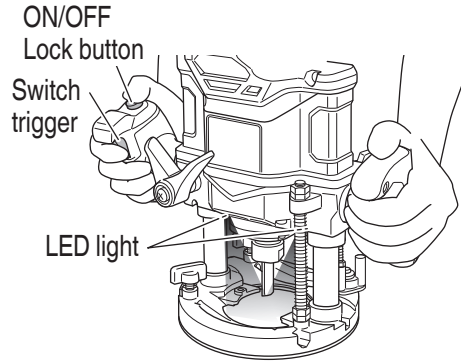

Fig. 28
2. How to use the LED light (**Fig. 28**)